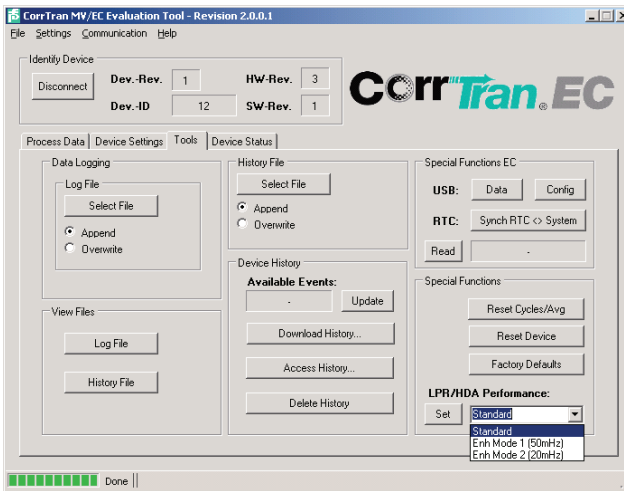

Figure 34. Enhanced Mode
*Figure 34 is for the CorrTran EC. It is identical on the CorrTran MV or CorrTran AQUA. Note: CorrTran AQUA is shipped from the factory defaulted to this setting.*